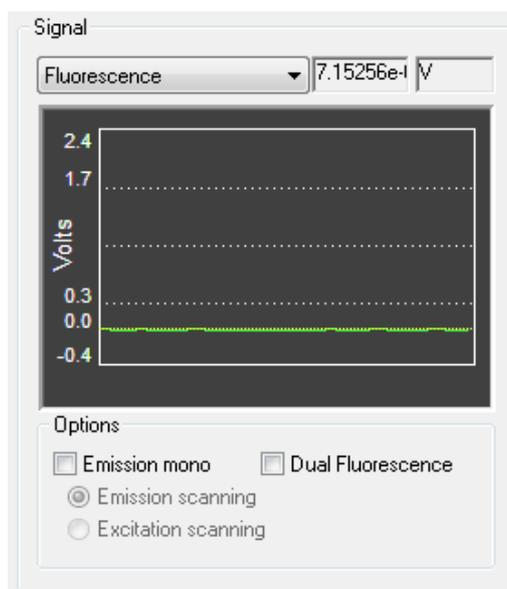

Figure 2.46: the Signal panel for steady state fluorescence excitation
2) On the **Signal** panel of the Pro-Data SCP select **Fluorescence** from the drop down list (Figure 2.46). If you have a second fluorescence detector with fittings, ticking the **Dual Fluorescence** box will allow data to be simultaneously acquired from the two detectors..